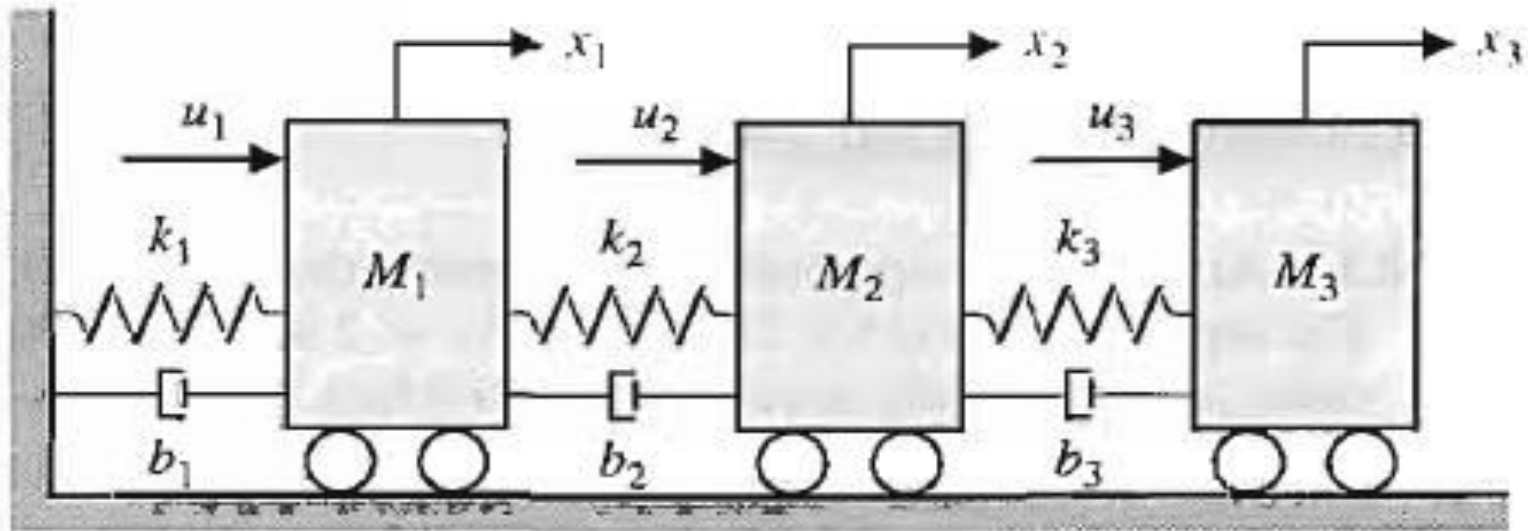

Fig.3.3: Three-cart system with Three inputs and three outputs.
3. For the three-cart system illustrated in Figure 3.3, obtain the equations of motion. The system has three inputs u_1 , u_2 , and u_3 and three outputs x_1 , x_2 , and x_3 . Obtain three second-order ordinary differential equations with constant coefficients.